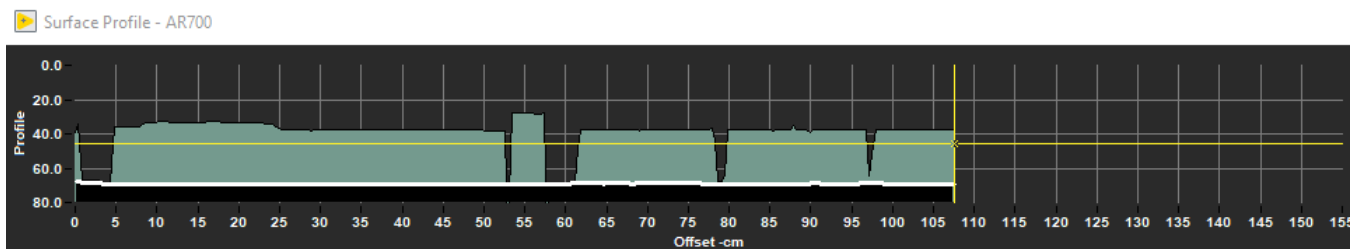

Figure 26. Laser Profile
- a. The sensor assembly will move down the track while the laser acquires a profile of the split surface of the section (Figure 26).